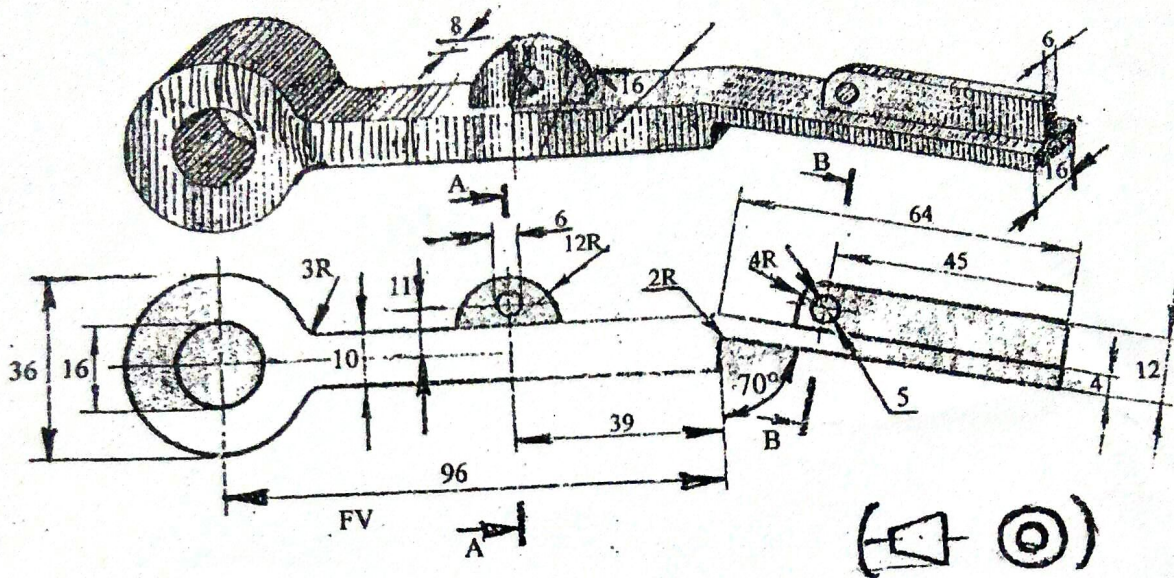

Figure 5
5. Draw removed or rotated section at A-A and B-B from the components as shown in figure 5. [5]